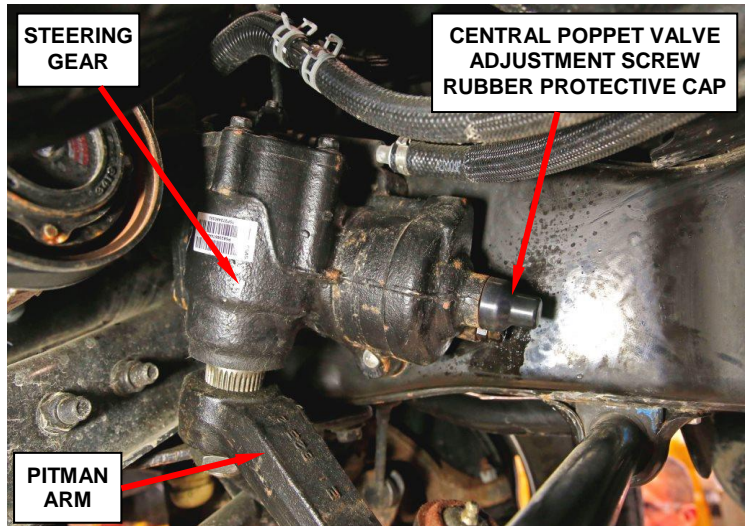

Figure 13 – Central Poppet Adjustment Screw Rubber Protective Cap
- b. Remove and save the central poppet valve adjustment screw rubber protective cap (Figure 13).
6. Install the central poppet valve adjustment screw rubber protective cap (Figure 13).